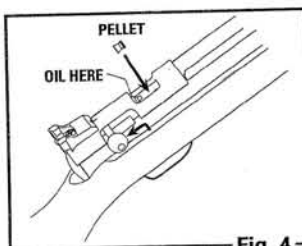

Fig. 4
- Open the bolt by pushing the bolt handle up and pulling it all the way back until you hear two clicks. (Fig. 4)
- With the bolt in the rearward position, place one pellet, nose first, into the loading port (breech). (Fig. 4) This is a single shot pellet air rifle. Load no more than one pellet at a time.
- Open the bolt. (See Step 4A - Fig. 4)